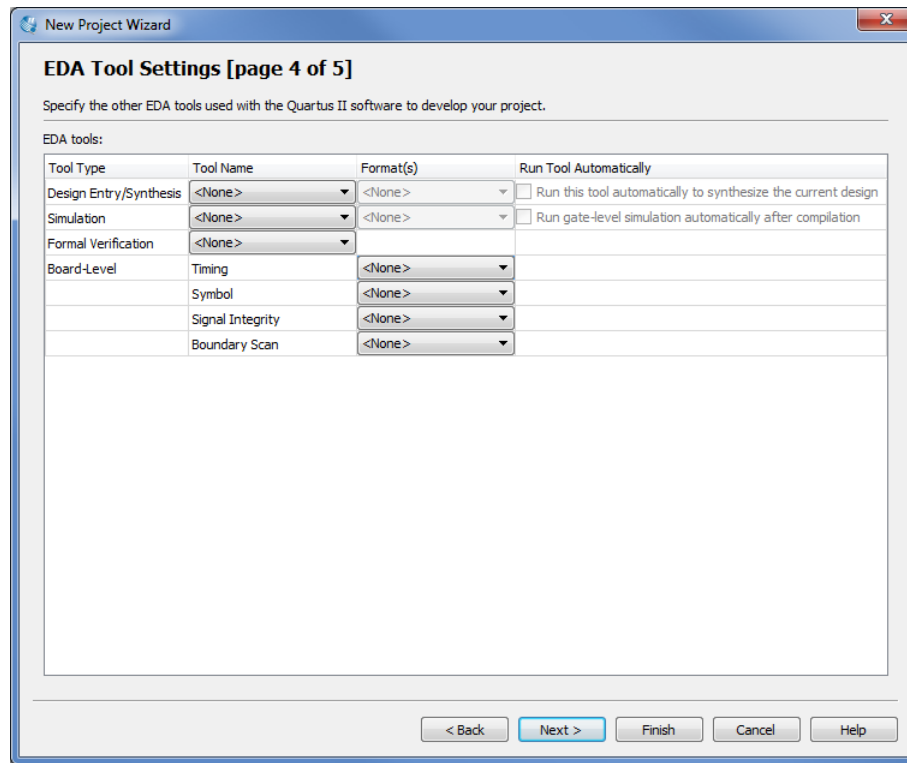

Figure 8. Other EDA tools can be specified.
4. We have to specify the type of device in which the designed circuit will be implemented. Choose the Cyclone-series device family for your DE-series board. We can let Quartus II software select a specific device in the family, or we can choose the device explicitly. We will take the latter approach. From the list of available devices, choose the appropriate device name for your DE-series board. A list of devices names on DE-series boards can be found in Table 1. Press Next, which opens the window in Figure 8.